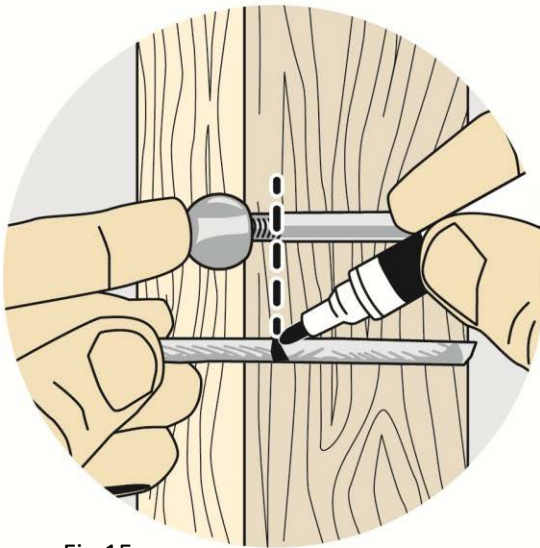
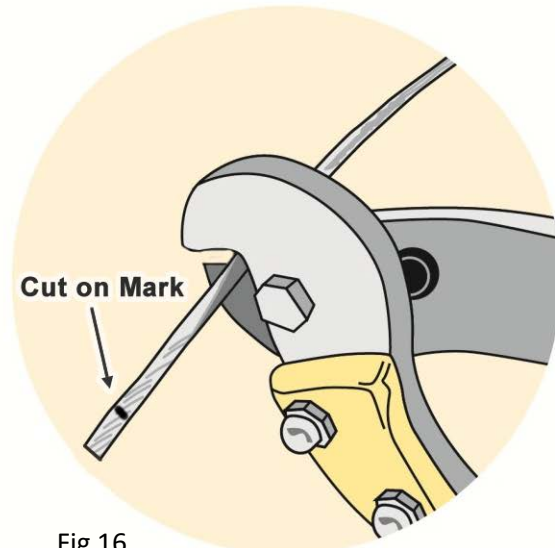

Fig 15
Fig 16
- Position the Swage Ball End on the outside face of the post, pull all slack out and hold cable adjacent to the Swage Ball End. Mark the cable where it matches mark on the Swage Ball End (Fig. 15). Cut cable to its final length (Fig. 16).
- Cut cable to its final length (Fig. 16).